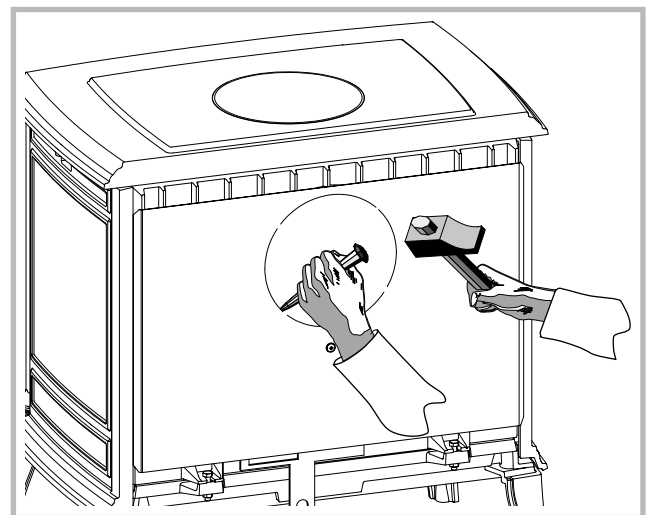

Figure 5 - Cut-out in the rear heat shield
**Remove the cut-out in the rear heat shield and re-fit (figure 5).**